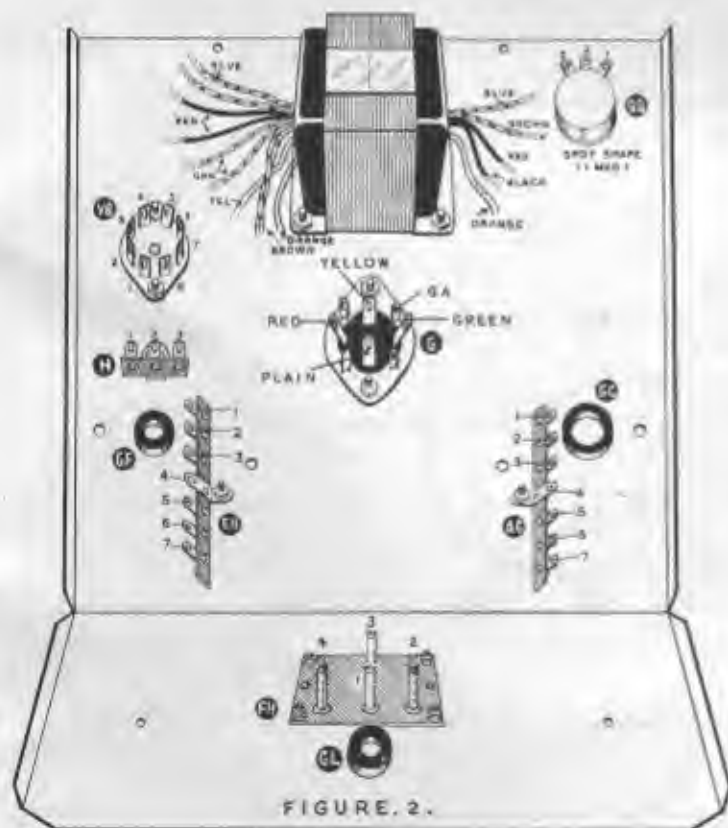

FIGURE 2.
## CHASSIS SUB-ASSEMBLY (Reference Figure 2)
- ( ) Install the capacitor mounting plate at G, using 2 - 6BA x 5/16" screws, lockwashers and nuts. Install the 40-20-20-50  $\mu$ F electrolytic capacitor. Observe carefully the insulator of the terminal end of the capacitor and notice that each tag is identified by a coloured paint spot. Be sure these tags are oriented as shown in Figure 2. Slip the four mounting lugs through the slots and hold the capacitor can firmly against the plate. Now twist each of the four mounting lugs about 1/8 of a turn to secure the capacitor to the plate.